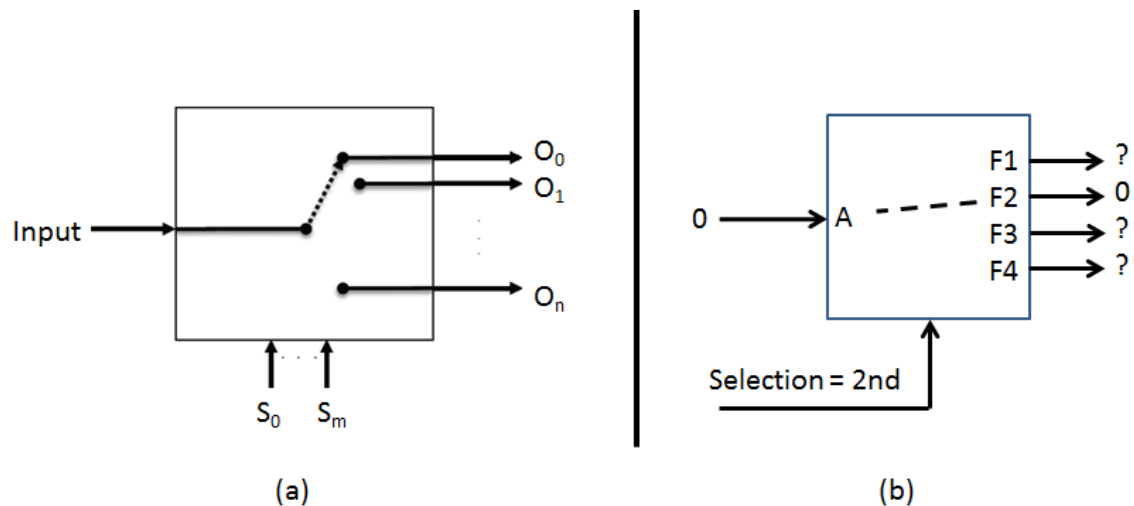

Figure 4.2. Demux component block diagram. (a) 1:n demux. (b) 1:4 demux.
A demultiplexer (Demux) circuit, also known as “data distributor”, has the opposite function of the multiplexer, that is, it allows an input to be available at only one output at a time. This decision is also defined by control signals. The block diagram of a general demux shown in Figure 4.2(a) has n output signals (O) and m control signals (S). A $2n$ outputs demux needs n control signals. In Figure 4.2(b) the value 0 is provided to input A, and the control signal “Selection” is set to the second output. As a result, the output F2 is connected to the input A, providing also the 0 value. If the selection is changed, for instance, to the first output, so F1 will also provide the 0 value. When the A input receives a new value, the corresponding output will also be updated.